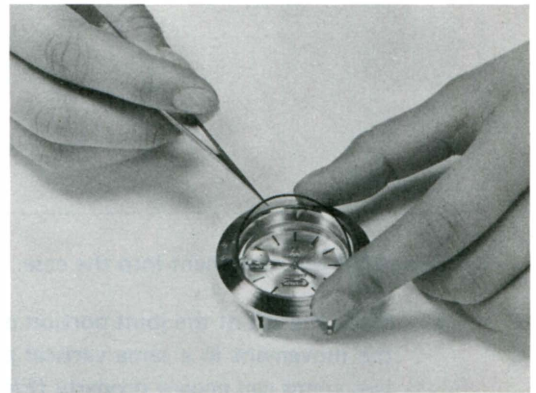

Fig. 8
- b. Place the O-Ring between the crystal glass and the lower end piece and insert with the tips of tweezers evenly along with the rim carefully (Fig. 8).